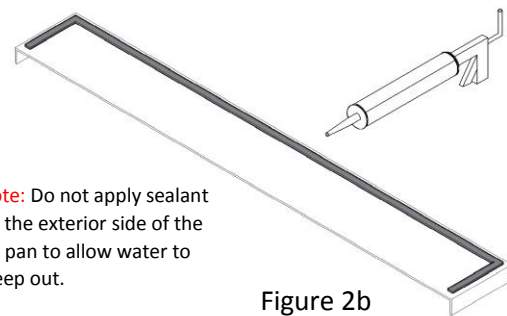

Figure 2b
- D. (Sill pan is required on all door installs) Apply a 3/8" bead of sealant around the perimeter of the bottom side of the sill pan as shown in figure 2b (Sealant should conform to AAMA 802.3-16 and 803.3-16). Apply glue on the sill in the opening to secure the sill pan.